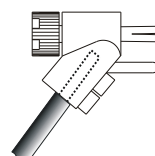

Figure 7
5. Attach the previously prepared bare wire cable ends into the banana plugs and secure the connections. Refer to figure 7.